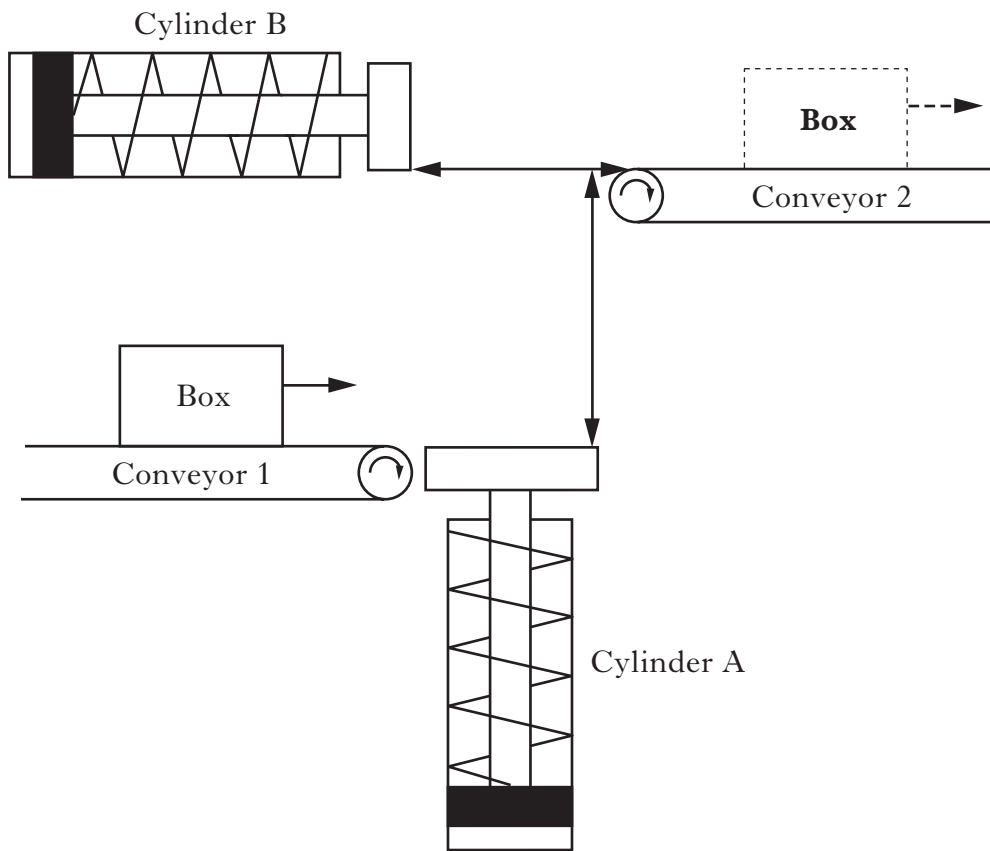

Figure Q7
7. Figure Q7 illustrates a box transfer system. It uses two pneumatic cylinders, A and B, to transfer boxes from the level of Conveyor 1 to the level of Conveyor 2. Conveyor 2 runs continuously.
- (a) Sketch a flowchart which shows the sequence for the transfer of one box from Conveyor 1 to Conveyor 2. Begin with Cylinder A being supplied with a box and each cylinder in the position shown in Figure Q7. In your flowchart simply state whether the appropriate cylinder is extended or retracted. 2